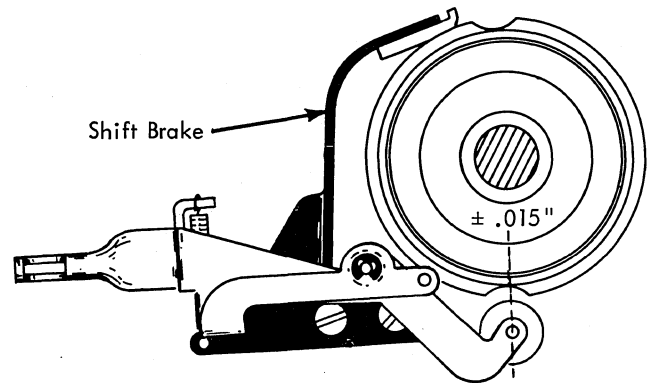

FIGURE 31. Shift Cam Brake Adjustment
4. Shift Cam Brake (Fig. 31) - The shift cam brake shall be so adjusted, that the shift cam will stop in the center of the detent position $\pm .015''$ when the detent roller is held away from the cam during the shift from upper case to lower case.